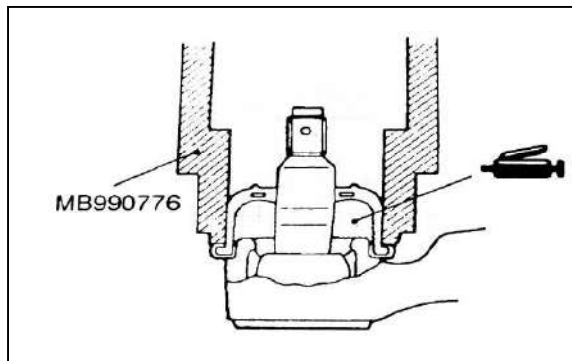

Fig 17-49
(3) TIE ROD END BALL JOINT DUST COVER REPLACEMENT(See fig 17-49)